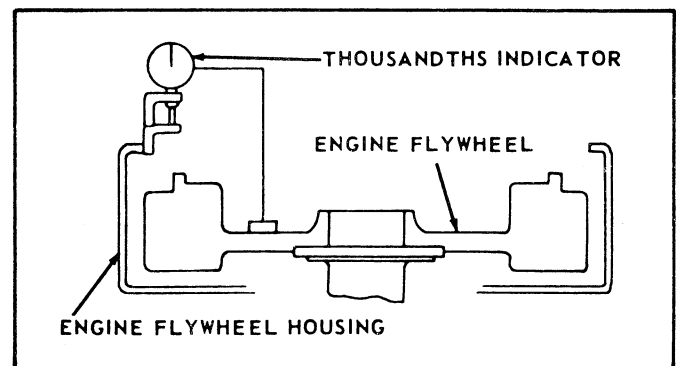

Figure 50 . Checking the bore of the engine Flywheel Housing.
E. Checking Bore of Engine Flywheel Housing. With the indicator mounted as in Paragraph D above, adjust the indicator stem so that it will ride on the bore of the engine flywheel housing (fig. 50). Rotate the engine flywheel and note the eccentricity of the engine flywheel housing bore. The bore eccentricity must not exceed 0.008-inch maximum total indicator reading.